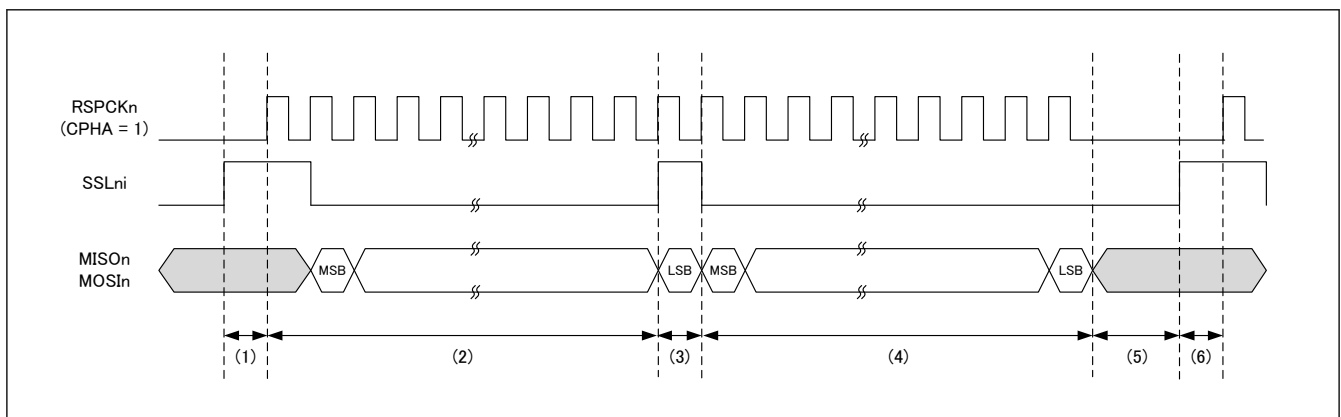

Figure 43.62 Example of Burst Transfer Operation (SPFRF = 1)
- When the SSLni signal level holding bit (SSLKP) of the SPI command register (SPCMD) is 1 and the burst transfer frame delay selection bit (BFDS) of the SPI control register (SPCR) is 1, SPCMD0 to SPCMD1 are shown in Figure 43.62. The following shows an example of SSLni signal operation and serial data MISO_n / MOSI_n when burst transfer is realized using the settings. The SSLni output signal polarity depends on the set SPI SSLi signal polarity bit (SPCR3.SSLiP) (i = 0 to 3) value.